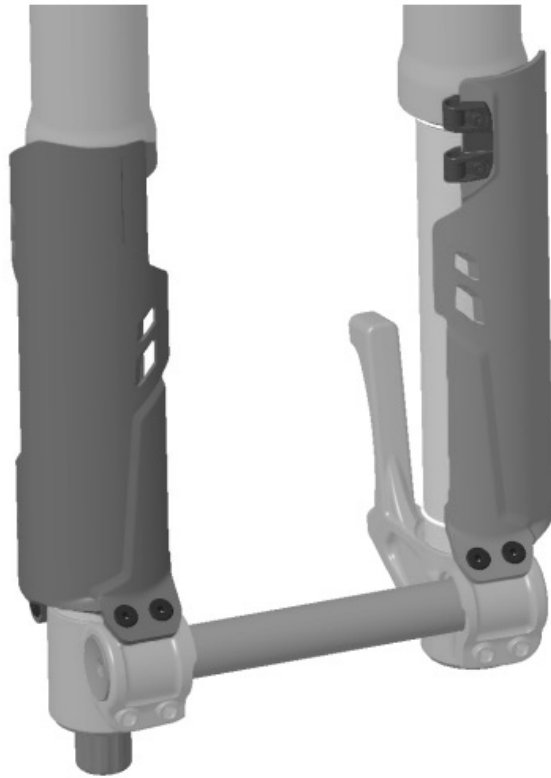

Figure 1: Installed fork guards
1. Install each fork guard as shown (Figure 1).